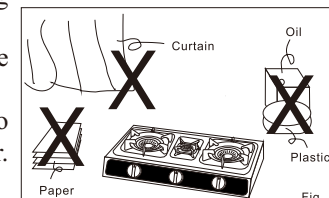

Fig. 3
- Make sure that there are no inflammable near the gas cooker. (Fig. 3)